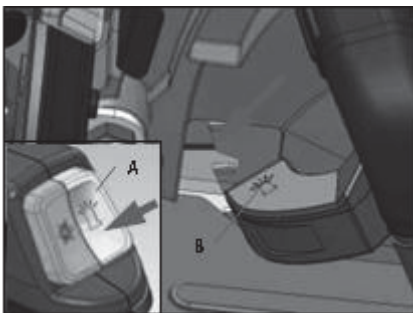

Fig.14.
- Push the LED button(A) to start the LED light, push again to turn off, as fig 14.